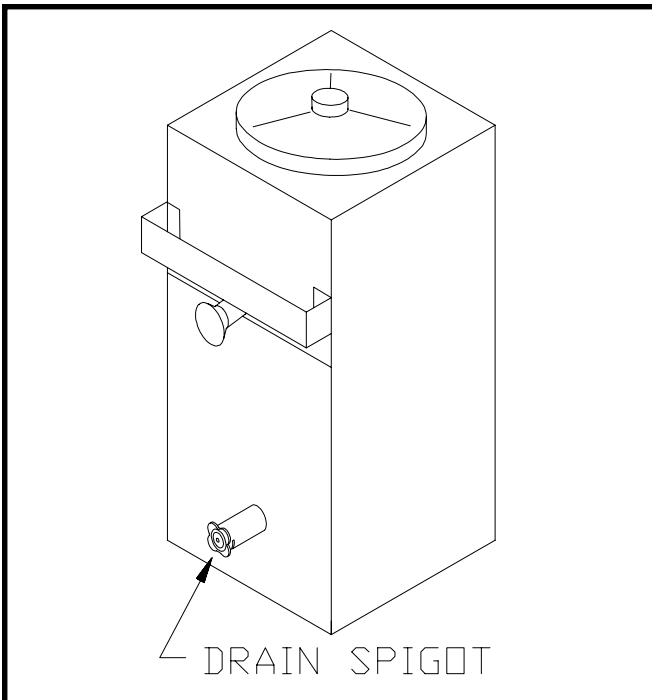

Figure 14
- D. With a bucket placed below the drain spigot, pull the spigot to dispense (Fig. 14).